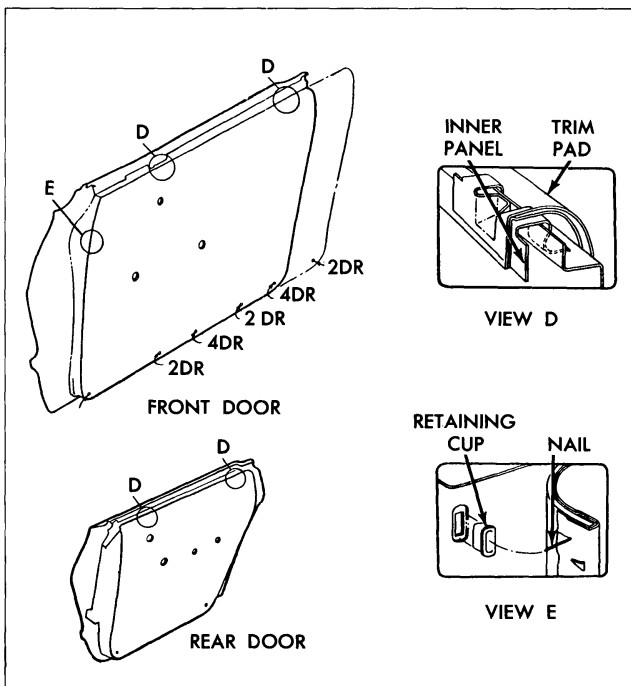

Fig. 3-18 Door Trim Pads
All door trims are the hang-on type and are further secured by attaching screws along bottom edge and by retaining nails inserted into plastic retaining cups in the door inner panel (Fig. 3-18).
2. Remove screws securing trim to door inner panel (Fig. 3-18).